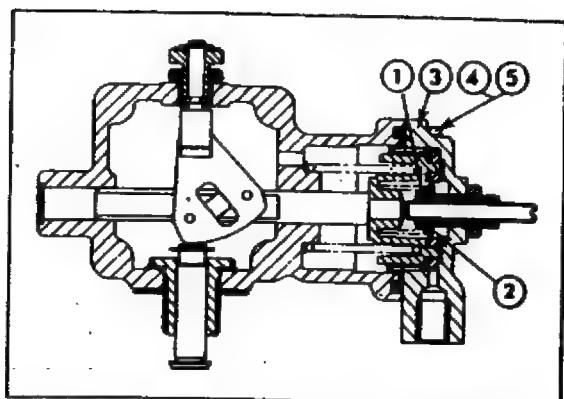

Fig. 62 Replacing Cover Assy.
5. Assemble the adjusting spring Fig. 62 and spring locator in their correct position and replace the cover so that the scribed lines coincide. Ensure that the diaphragm is not pinched between the cover and housing. Secure with the four screws and washers and tighten to the correct torque of 2.7 to 4.0 Nm (0.28 to 0.42 kgf m or 2 to 3 lbf ft).